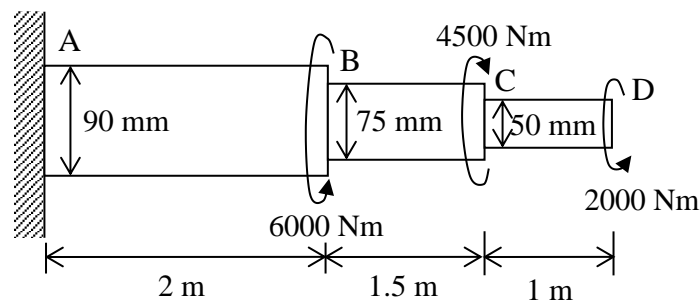

Figure 7 / Rajah 7
- (b). A stepped shaft *ABCD* consisting of circular hollow segments is subjected to three torques as shown in **Figure 7**. The thickness of each segment is 10 mm. The torques have magnitudes of 6000 Nm, 4500 Nm and 2000 Nm. End A is fixed and the material is steel with shear modulus of elasticity $G = 80$ GPa.